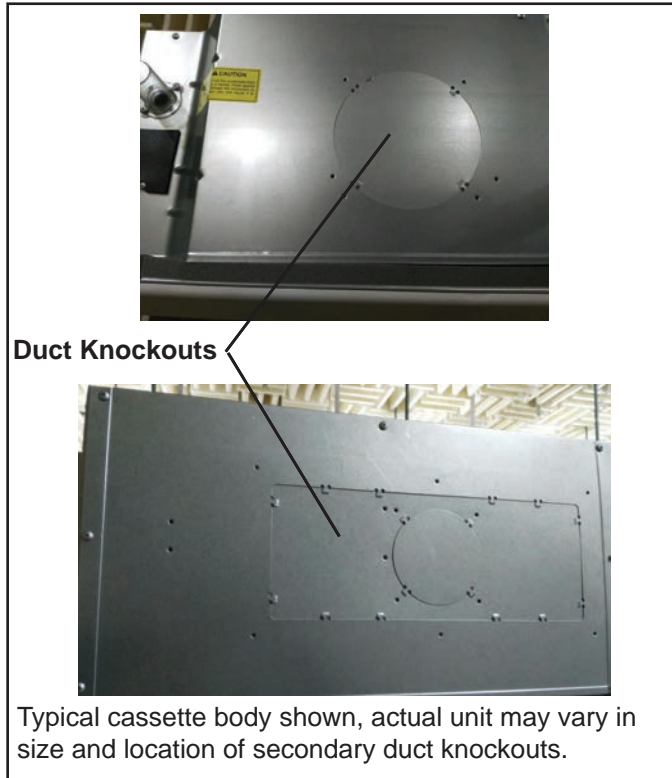

Figure 18. Typical Duct Knockout
3. Knockout the secondary supply duct opening. See Figure 18.
5. Connect the secondary supply duct to the cassette body using the eight screw holes shown in figure 18.